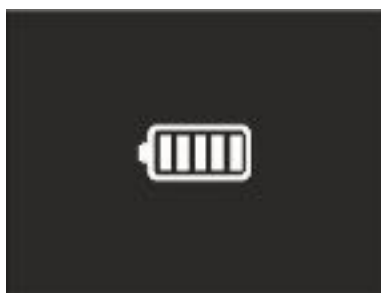

Fig. 51: Indication of complete recharge of the battery
3. When the symbol “” appears steady on the display, the charging process is complete (see Fig. 51).